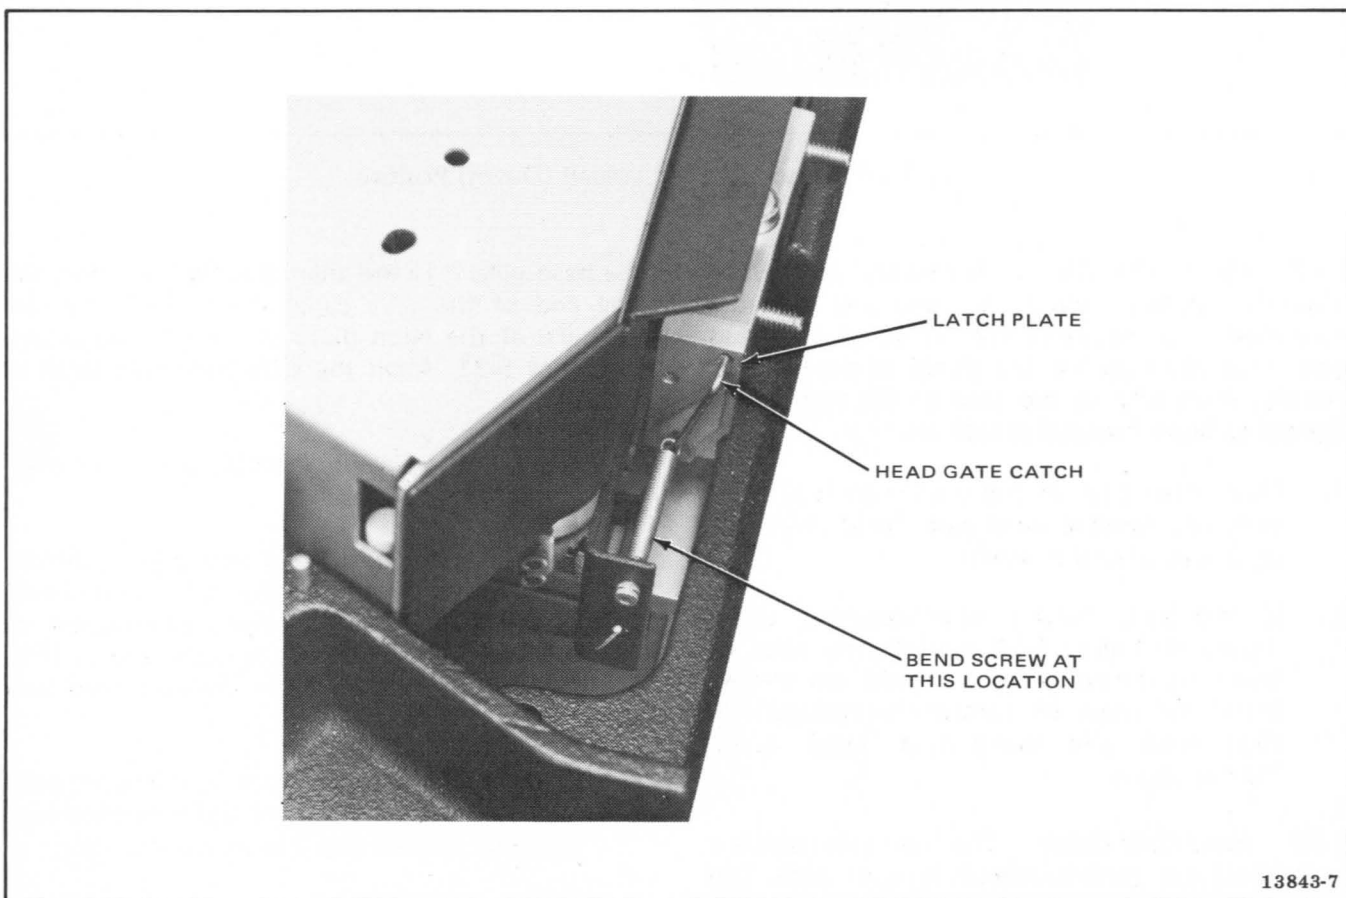

Figure 5-31. Head Gate in Unlatched (Up) Position
the head gate is in the unlatched (up) position, the free end of the wire catch must nearly contact the face of the latch plate at the location shown in Figure 5-31. Align the wire head gate catch as follows:
2. With the aid of a long-nose pliers, slightly bend screw through spring at location shown in Figure 5-31, left or right, as required, so that wire catch rests at location shown (Figure 5-31) when gate is in the unlatched (up) position.